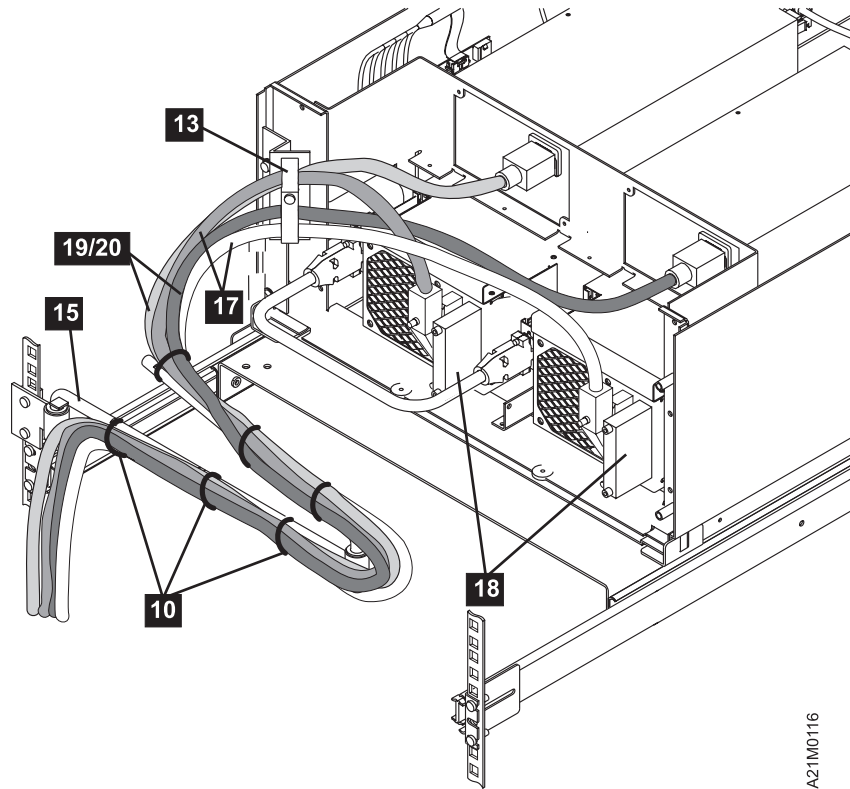

Figure 47. Model B22 (Dual-Drive Split-Host) Cable Routing
- ___ Step 5. Install the long SCSI host cable **17** into drive 1. Insert the right-angled plug into the left-most 68-pin socket (see Figure 47) so the cable is looped upward. Next, install the second long SCSI host cable **17** into the left-most 68-pin socket of drive 2. Plug the right-angled plug into the left 68-pin socket (see Figure 47) so the cable is looped upward. Route it to the lower wing of the clamp (loop the cable so it does not extend above the top of the 3570 you are installing). With the power cord **19/20** and the SCSI cable **17** from drive 1 captured in the upper wing of the clamp, and the power cord **19/20** and the SCSI cable **17** from drive 2 captured in the lower wing of the clamp, tighten the screw.